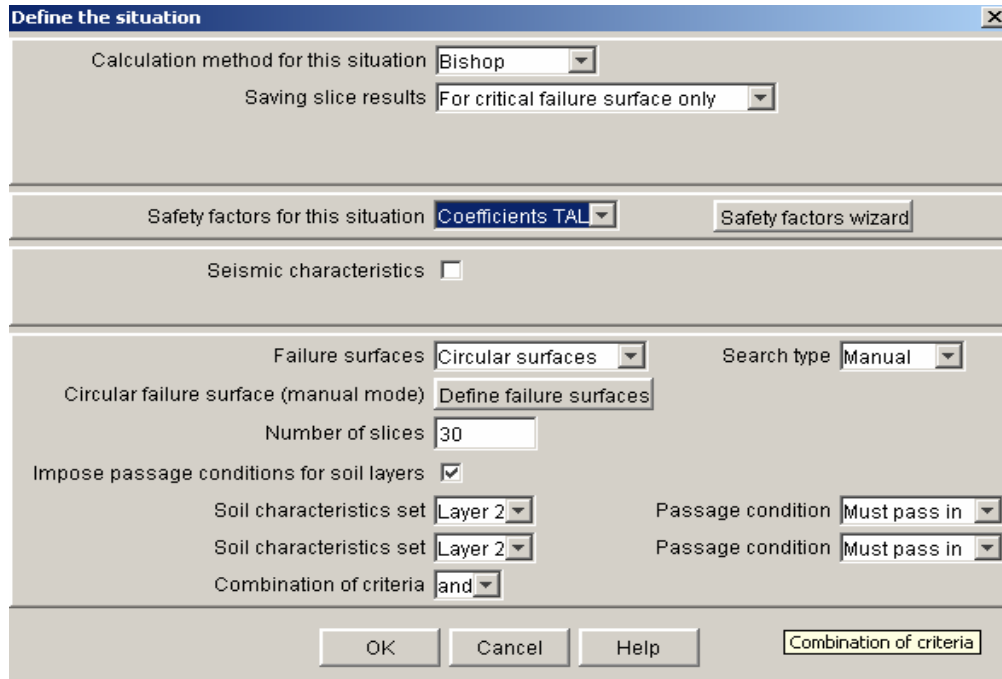
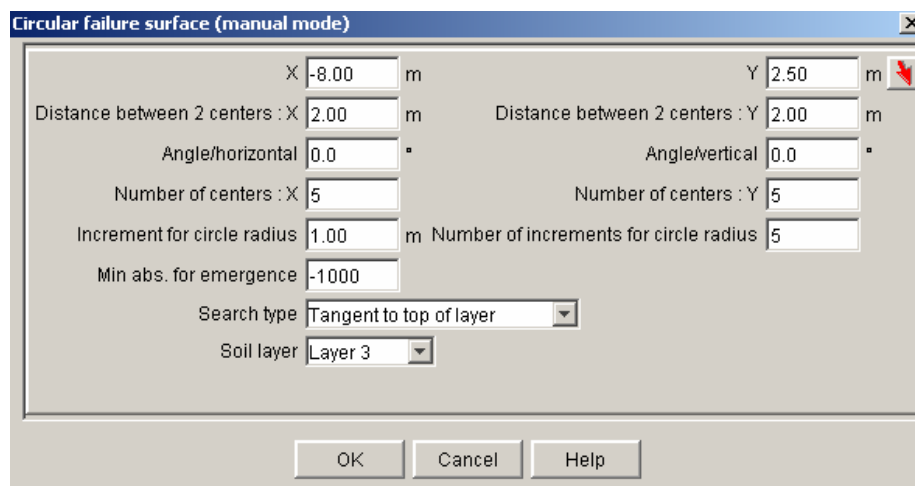

Figure 57: *examp22e.prj* file, definition of situation 1 for stage 1
Figure 58: *examp22e.prj* file, definition of situation 1 for stage 1 (failure surfaces)
- To view the settings of situation 1, right click on it and choose [Define the selected set of conditions] in the menu. All the settings were initialised from the .tal file (Figure 57). To view failure surfaces, click on the button [Define failure surfaces]. Here too, all the settings are initialised from the .tal file (Figure 58).